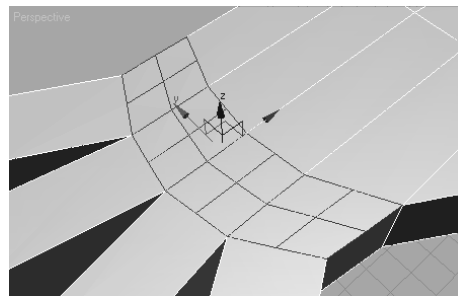

Figure 4.91
2. Select the polygons at the base of the fingers and hold the Ctrl key to allow you to select all four polygons, as seen in Figure 4.90. Select the Tessellate Settings button under the Edit Geometry rollout. You are going to use the Edge option with Tension set to 0. Click OK, and your hand should tessellate as in Figure 4.91.